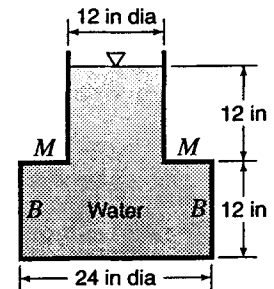

Figure X3.7.16
3.7.16 Figure X3.7.16 shows a cylindrical tank with 0.25-in-thick walls, containing water. What is the force on the bottom? What is the force on the annular surface MM ? What is the weight of the water? Find the longitudinal (vertical) tensile stress in the sidewalls BB if (a) the tank is suspended from the top; (b) it is supported from the bottom. Neglect the weight of the tank.